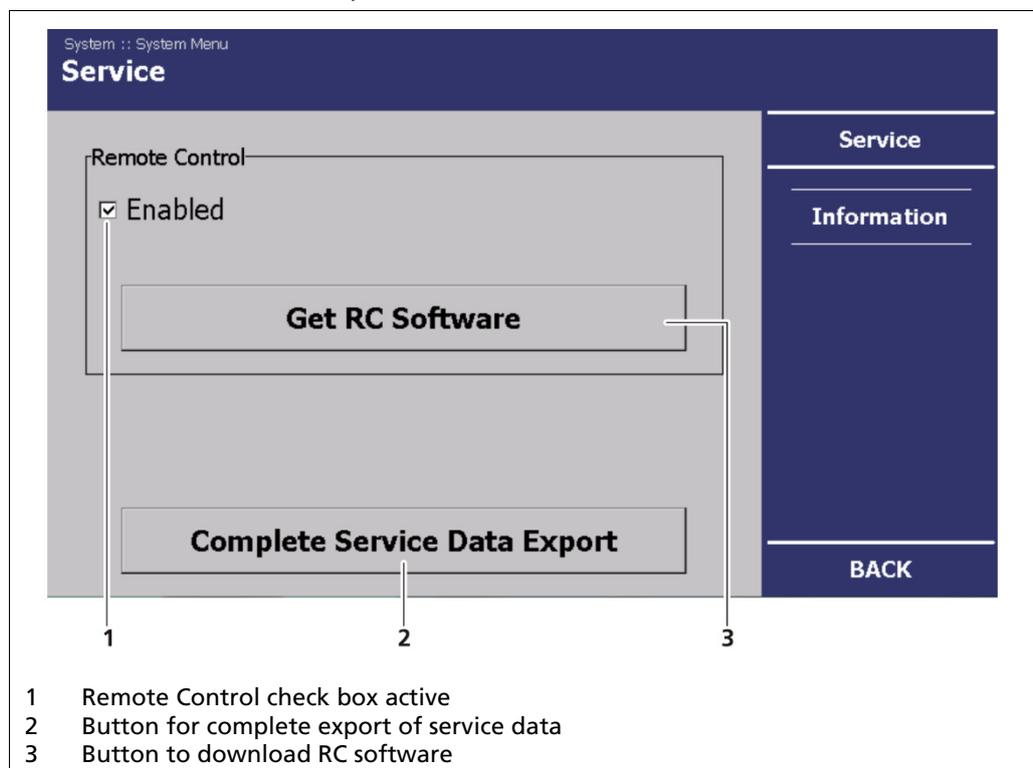

Fig. 39 System Menu, Service
The check mark must be set to "Enable" for the Remote Control to function (Fig. 39, Item 1).
1. Click on "Download RC Software" in order to download the RC software from the EVU to the USB flash drive (Fig. 39, Item 3).
Click on "Complete Service Data Export" to save the service data on the USB flash drive (Fig. 39, Item 2).